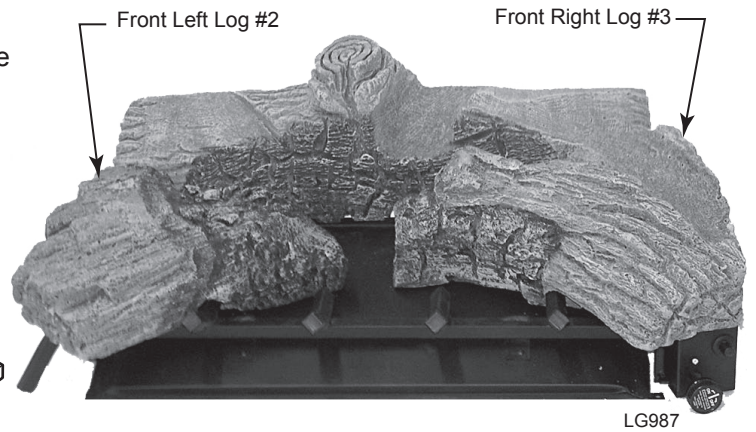

Figure 26
2. Place front left log #2 on left front of grate bar aligning cutout in bottom of log with grate bar. *Figure 26*
3. Place front right log #3 on right front of grate bar aligning cutout in bottom of log with grate bar. Make sure log #3 touches log #1. *Figure 26*